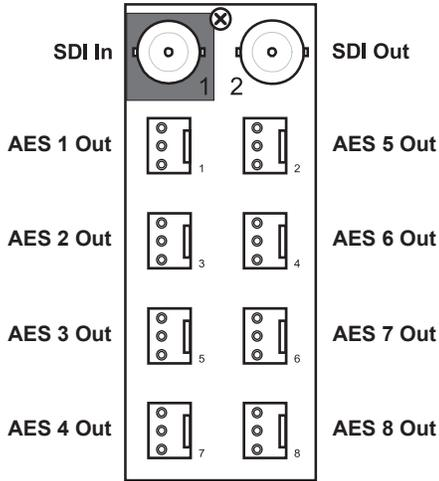
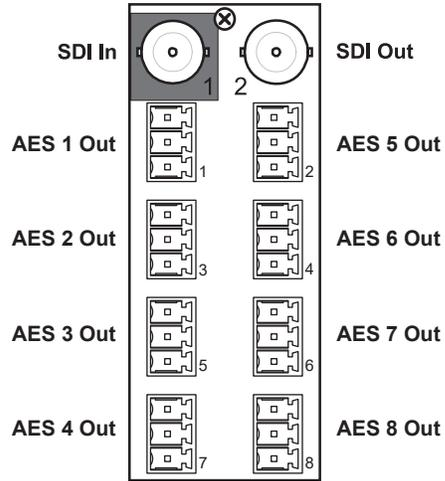

Figure 6 Cabling for the 8320AR-034
Figure 7 Cabling for the 8320AR-034A
- **DFR-8310 series frames** — The **8310AR-034** rear module is required. The DMX-8259-B is not compatible with the DFR-8310-BNC frames. This rear module provides one SDI input, one SDI output, and eight balanced AES outputs at 110ohm. (**Figure 6**)
- **DFR-8320, OG3-FR, and OGX-FR series frames** — The **8320AR-034** and **8320AR-034A** rear modules are supported. Each rear module provides one SDI input, one SDI output, and eight balanced AES outputs at 110ohm. (**Figure 6, Figure 7**)